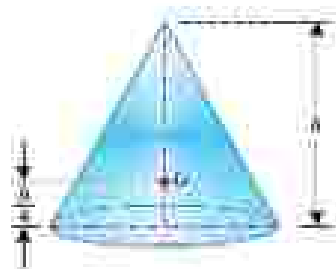

Fig. 6.7. Right circular solid cone
10. The centroid of right circular solid cone is at a distance of $h/4$ from its base, measured along the vertical axis as shown in Fig. 6.7.